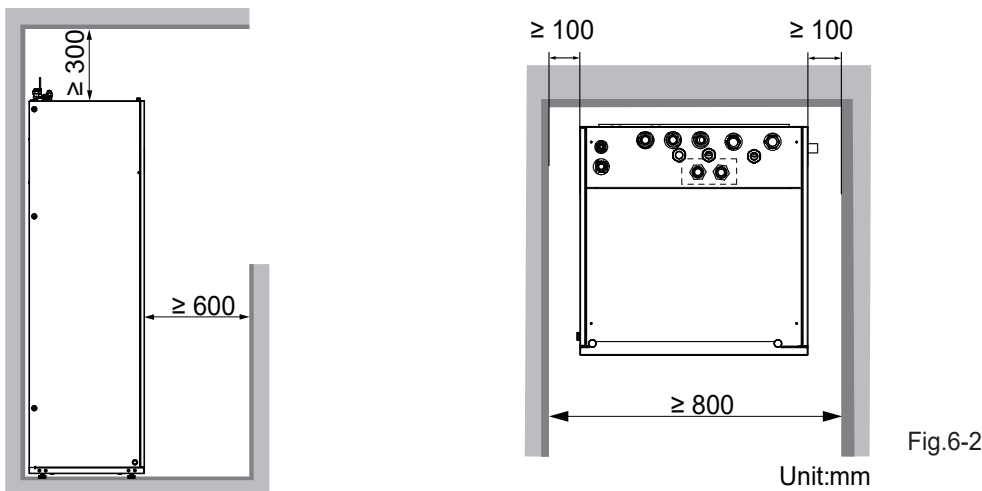

Fig.6-2
- The space around the unit is adequate for serving, see figure 6-2.
- The space around the unit is adequate for servicing (Refer to Fig.6-2).